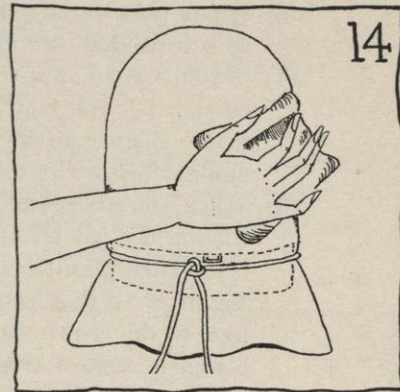

FIG. 14.
d. Press the crown with this hot luring pad by going around and around the block, starting at the bottom and gradually working your way up to the center tip (see Figure 14). Luring gives a nice gloss to felts, particularly if a bit of soap or coconut oil has been put on the luring pad.